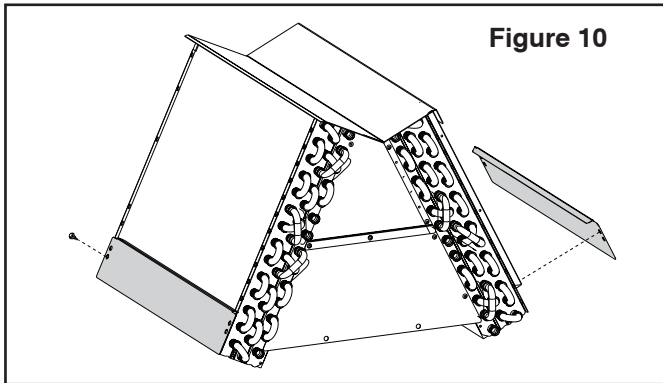

Figure 10
- c. Optional but recommended: On 5TXCA009AS and 5TXCD010AS only, remove the (2) outer water diverter baffles by removing the 5/16" hex head screws. See Figure 10.
- d. Optional but recommended: On 5TXCA009AS and 5TXCD010AS only, remove the (2) outer water diverter baffles by removing the 5/16" hex head screws. See Figure 10.
- b. Optional but recommended: On 5TXCA009AS and 5TXCD010AS only, remove the (2) outer water diverter baffles by removing the 5/16" hex head screws. See Figure 10.